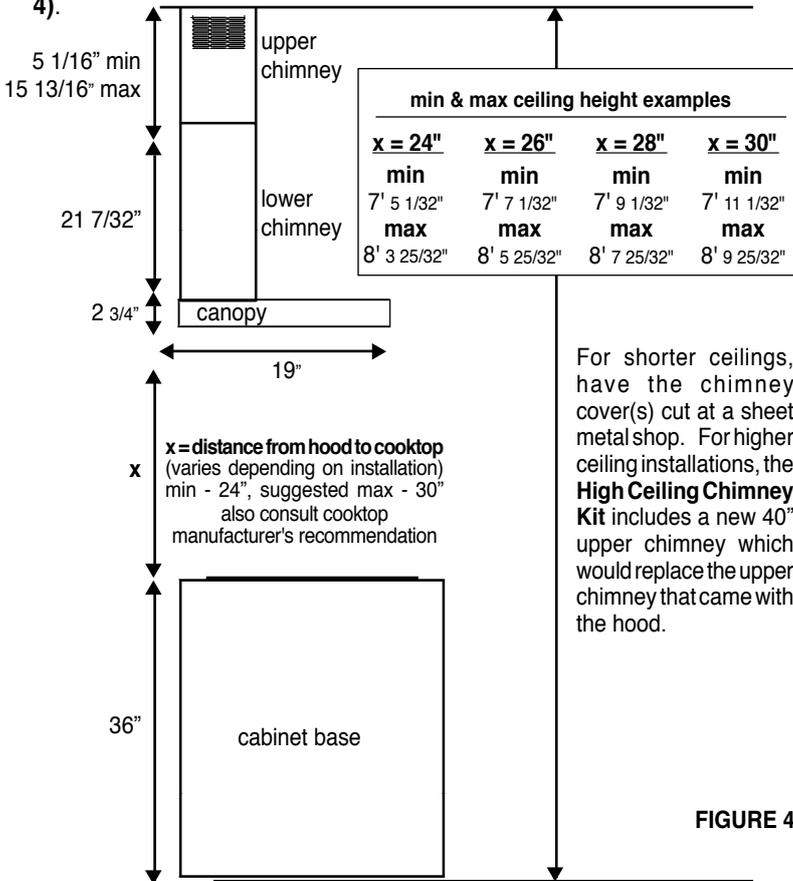

FIGURE 4
The Gemma chimneys are adjustable and designed to meet varying ceiling heights as indicated in (FIGURE 4). The chimneys can be adjusted for ceilings between 7' 5 1/32" and 8' 9 25/32" depending on the distance between the bottom of the hood and the cooktop (distance x in FIGURE 4).
3. Based on your ceiling height and/or personal preference, determine the distance you would like between the bottom of the hood and the cooktop (SEE FIGURE 4 AND 5). The dimensions illustrate mounting the canopy 24" above the cooking surface.